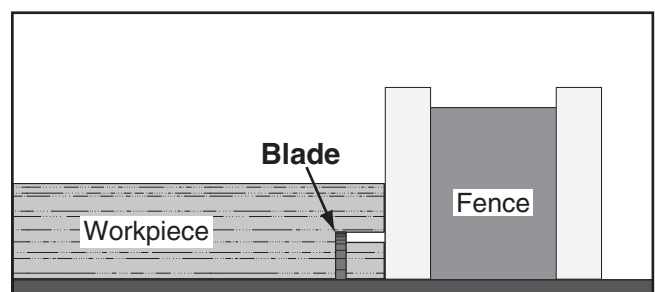

Figure 64. Example of second cut to create a rabbet.
7. Lay workpiece flat on table, as shown in **Figure 64**, adjust saw blade height to intersect with first cut, then perform second cut to complete rabbet.